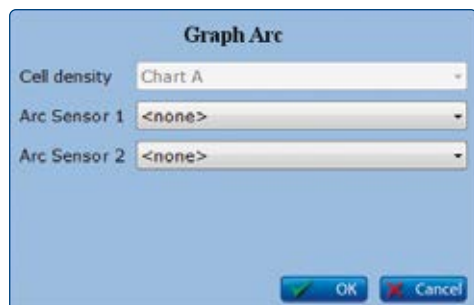

Figure 38: Graph Arc Menu.
3. Press the button Graph Arc on the bottom left hand corner of the Run Menu (Figure 11). The Arc View Controller will automatically scan for sensors. The Arc Wireless Converter MB or BT is flashing in red during this process. The Graph Arc display opens (Figure 38). The cell density measurement Dencytee is set on Chart A per default.